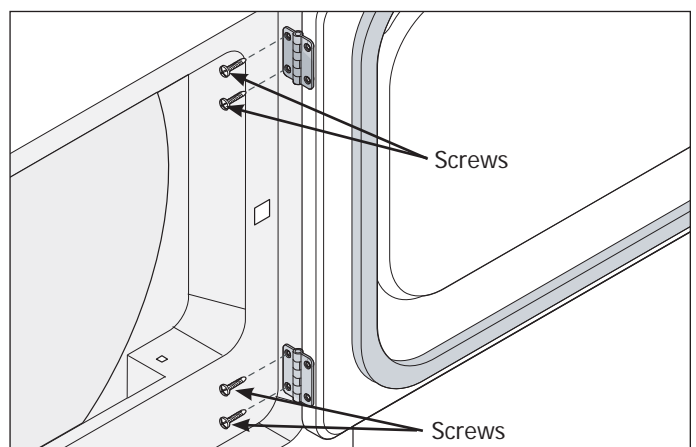

Figure 4-7.
2. Extract the four screws using a Phillips head screwdriver that secure the door hinges to dryer front panel. Hold the door firmly before removing the last two screws. (See Figure 4-7)